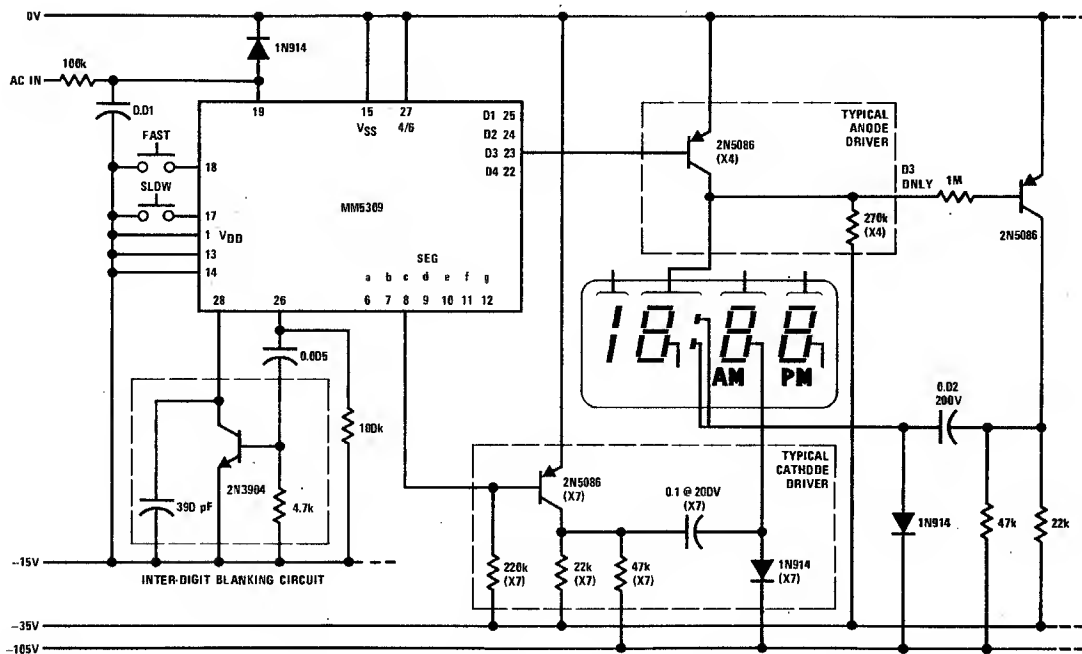

FIGURE 10. MM5309 Driving Gas Discharge Display, Typical Applications
**50 or 60 Hz Input:** This input is applied to a Schmitt Trigger shaping circuit which provides approximately 5V of hysteresis and allows using a filtered sine wave input. A simple RC filter such as shown in *Figure 10* should be used to remove possible line voltage transients that could either cause the clock to gain time or damage the device. The shaper output drives a counter chain which performs the timekeeping function.